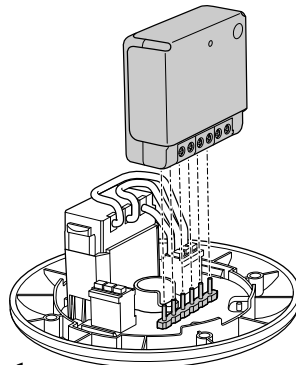

Figure 1
- 2 Insert the relay switch into its DCL, see **figure 1**.